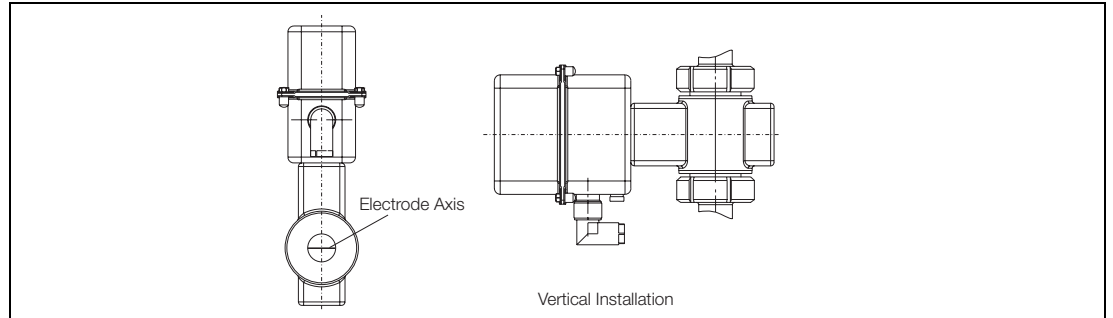

Fig. 4: Installation and Electrode Axis in the EMF
- For horizontal installations, assure that neither electrode is located at the highest point, to exclude errors due to air bubbles. An ideal installation of an EMF is assured in a vertical pipeline. Fig. 4 shows the two preferred installation orientations.